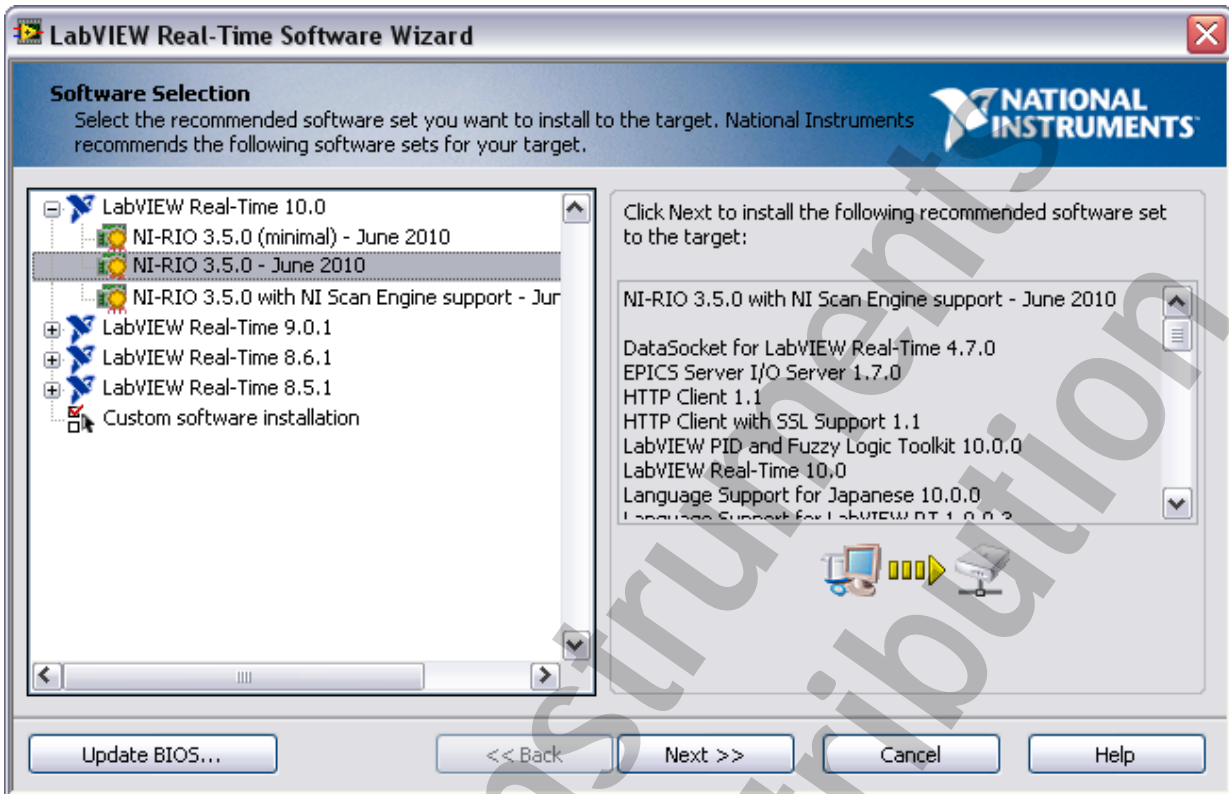

Figure 2-2. LabVIEW Real-Time Software Wizard
- ☐ Select **LabVIEW Real-Time 10.0»NI-RIO 3.5.0** and click **Next**, as shown in Figure 2-2.